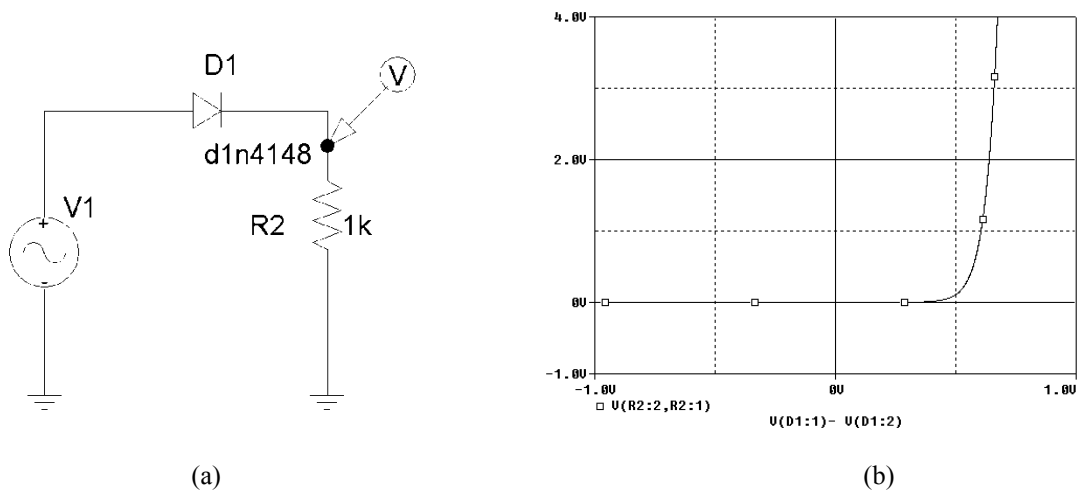

Fig 3. (a) Diode Test Circuit for I-V Characteristic in PSpice and (b) Resulting Waveform
*Diode I-V Characteristics:* to examine the I-V characteristics of a diode one can setup a test circuit like that shown in Fig 3(a). Measure the voltage drop across the diode ( $V_D$ ) and across the resistor ( $R I_D$ ) for different values of V1 (note carefully the polarities of the measured voltage drops, and the current now being scaled up by the resistor value). The resulting measurement points should lie on the line shown in Fig 3(b), which clearly shows the exponential relationship previously given for the diode current.
1. Using PSpice, set up the circuit shown in Fig 3(a). Perform a DC sweep analysis for the source V1 from -1 to 1 V. To do that, in the menu bar go to Analysis --> Setup --> check DC sweep --> DC sweep --> choose voltage source as your variable type, and input the source name. Then choose linear sweep and set your start and end values. Use an increment of at most 5mV. Note: since the added source is an AC source, initialize its configurable parameters to 0. Otherwise, you will receive error messages and the simulation will not run.
2. The resulting waveform will have the voltage drop across the resistor on the Y-axis and the swept voltage on the X-axis. To obtain the waveform in Fig 3(b), you will need to modify the parameter for the X-axis. To do so, double click on the X-axis --> Axis Variable. In the trace expression, select the node potential V(D1:1), insert a – sign, then select the node potential V(D1:2) --> OK. Your waveform should now resemble Fig 3(b). Attach the waveform to your pre-lab report. What is the approximate ON voltage of the diode?